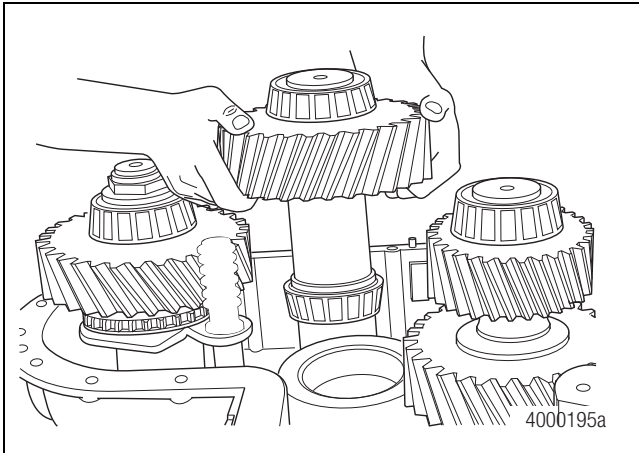

Figure 4.20
9. Remove the single-gear idler shaft on MTC-4213X, or rear output on MTC-4208X/XP/XL/XLEV and MTC-4210X/XP/XL/XLEV, and the double-gear idler shaft from the case. Figure 4.20.